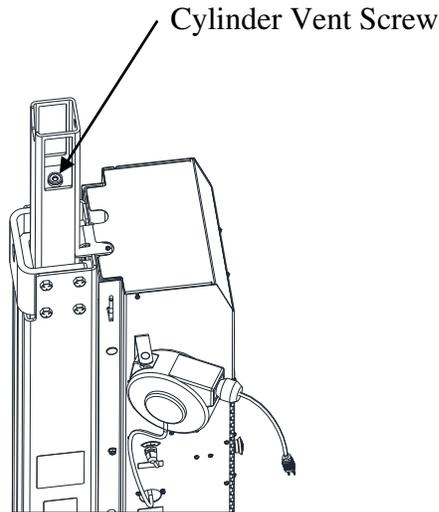

Figure 7: *Cylinder Vent Screw*
- Position a ladder behind the lift unit so you can reach the top of the cylinder. Use a 5 mm hex key to slightly loosen the vent screw (do not fully remove the vent screw) in the top on the cylinder, (see Figure 7: *Cylinder Vent Screw*) while surrounding the port with a clean rag. You will hear the air escaping.